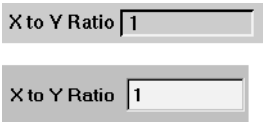

Figure 2-14. Text fields in Motif (top) and Windows (bottom).
- **Text fields:** Use text fields to type information, such as file names, arbitrary parameters, or data values. Figure 2-14 shows text fields as they appear in Motif and Windows systems.